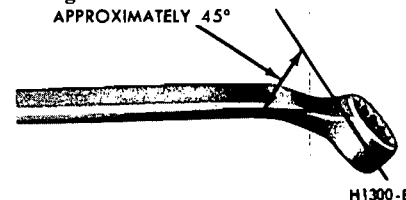

FIG. 9—Wrench for Bleeding Brake Hydraulic System
2. To bleed the secondary (rear) brake system, position a suitable 3/8 inch box wrench (Fig. 9) on the bleeder fitting on the brake wheel cylinder. Attach a rubber drain tube to the bleeder fitting. The end of the tube should fit snugly around the bleeder fitting.
4. If the rear wheel cylinders, the secondary brake system, are to be bled, position a 3/8 inch box wrench (Fig. 9) on the bleeder fitting on the right rear brake wheel cylinder. Attach a bleeder tube to the bleeder fitting. **The end of the tube should fit snugly around the bleeder fitting.**